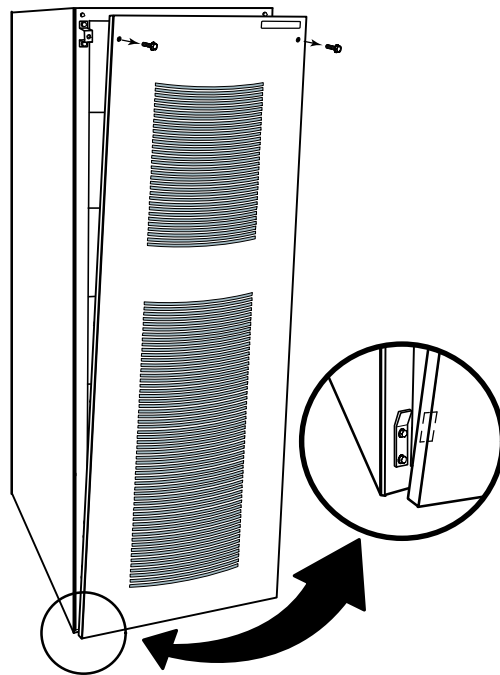

Figure 3. Removing the EBC Front Door
1. Remove the two M8 hex-head screws from the top corners of the door (see Figure 3).